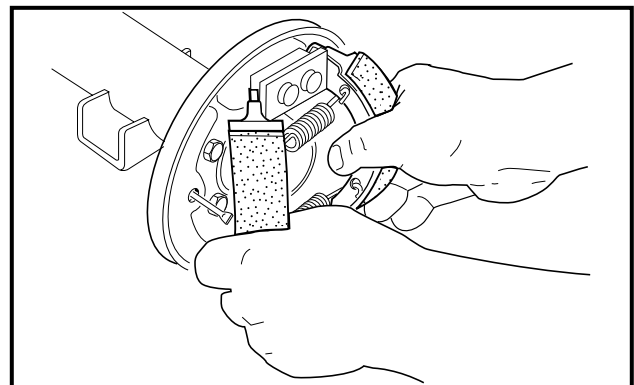

Figure 6-6 Remove Shoes
- Grasp both brake shoes and pull them, with the springs, out of brake assembly (Figure 6-6, Page 6-5).